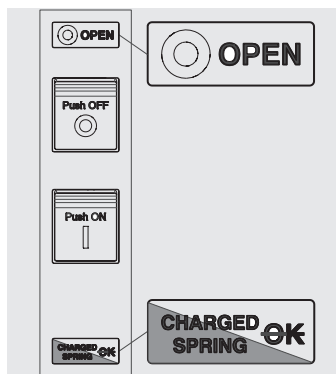

Figure 84
5. Circuit-breaker open with springs charged and not ready to close (see Figure 84). This state occurs in the following cases: